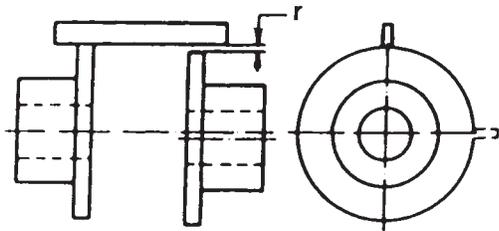

Fig. 26
1. Initial parallel alignment can be checked by using a straight-edge across the hub flanges (per Fig. 26) to measure the approx. distance ( $r$ ) as shown in Table 4 and Fig. 26.